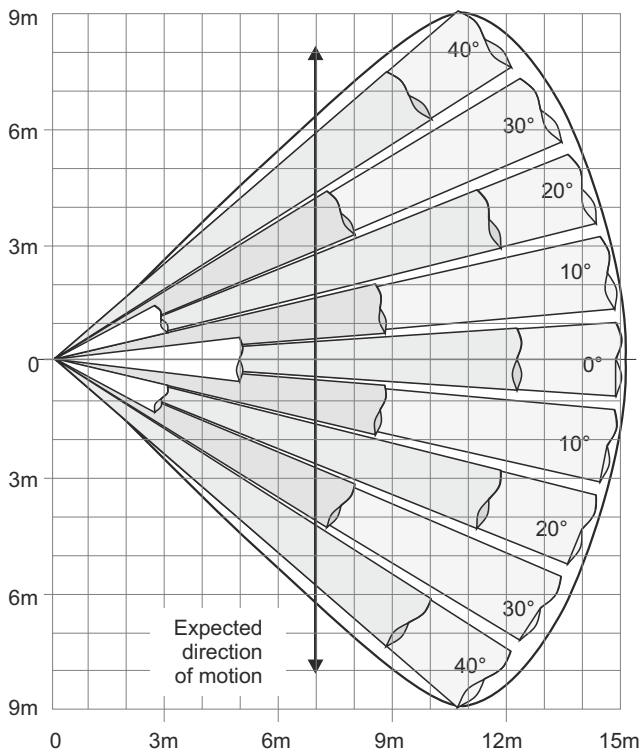

Fig. 2
- \* Maximum sensitivity is achieved when mounted crosswise to the horizontal detection zones of the PIR sensors. Therefore, select a mounting site that runs crosswise to the expected direction of motion (see Fig. 2).